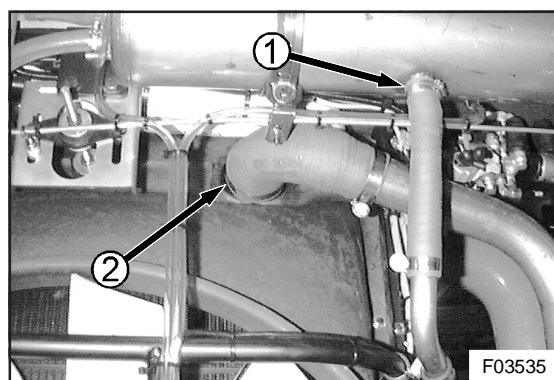

Figure 20: Upper hose clamps of surge tank filler tube (1) and radiator inlet tube (2)
21. On coaches equipped with Cummins engine, loosen upper hose clamps of surge tank filler tube (1, figure 20) and radiator inlet tube (2, Figure 20). Detach and remove both tubes.